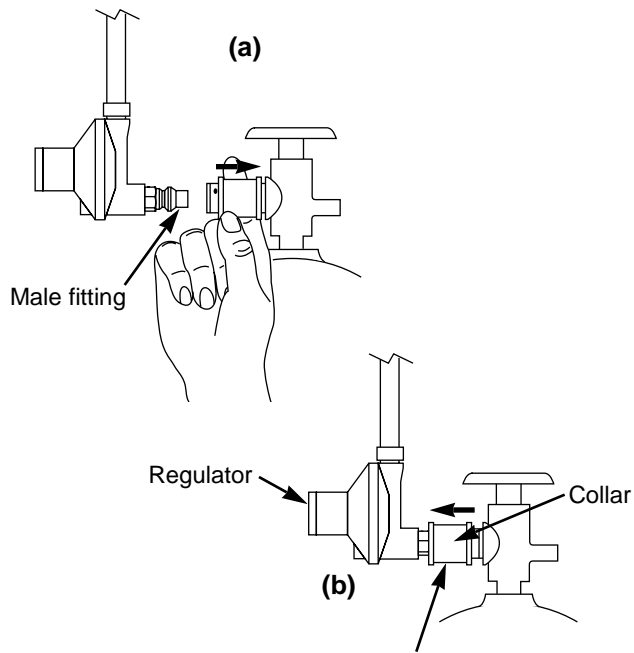

Figure 5 Quick disconnect engaged
- c) Connect the hose to the tank. Route the hose so it does not interfere with the scale indicator rod. Slide back the collar of the quick disconnect on the tank valve. Figure 5 (a). Push the male fitting of the regulator into the quick disconnect, and maintain pressure. Slide the collar closed. Figure 5 (b). If it does not engage or lock, repeat procedure. Gas will not flow unless the quick disconnect is properly engaged.